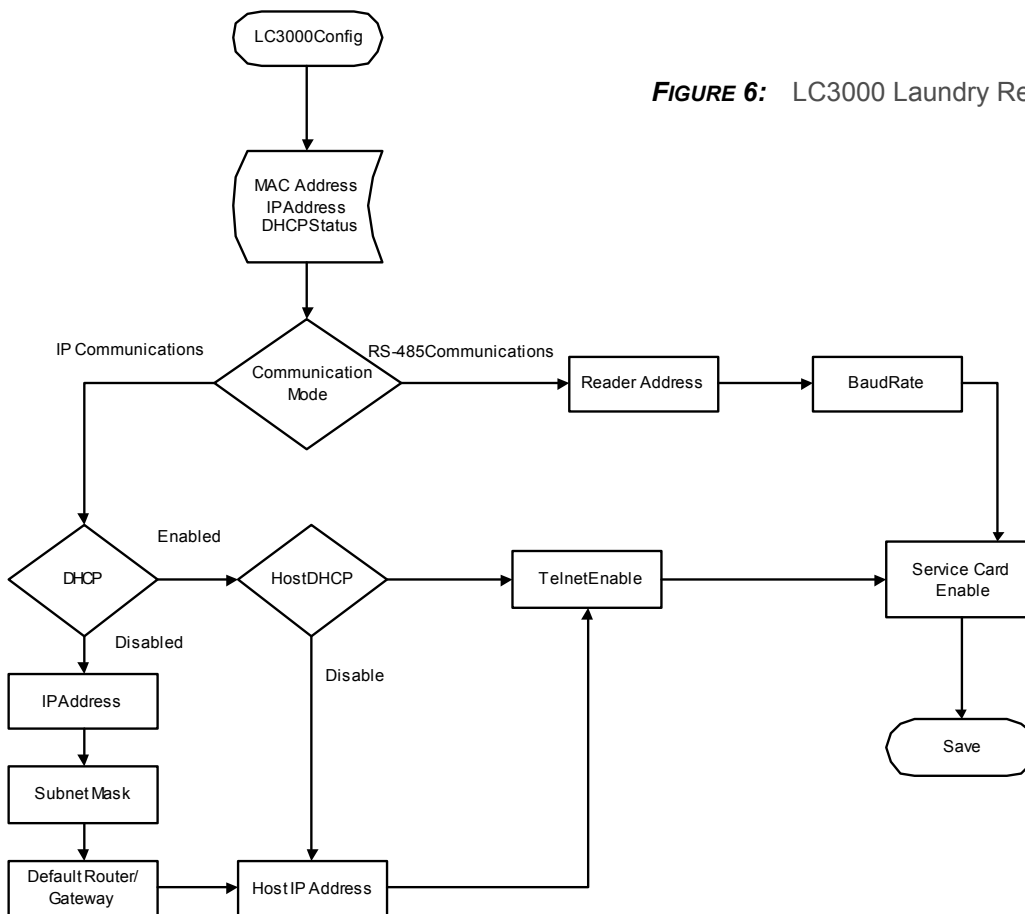

FIGURE 6: LC3000 Laundry Reader Configuration
***config** to configure the LC3000. Refer to Figure 6: LC3000 Laundry Reader Configuration (page 7) for the configuration options.*